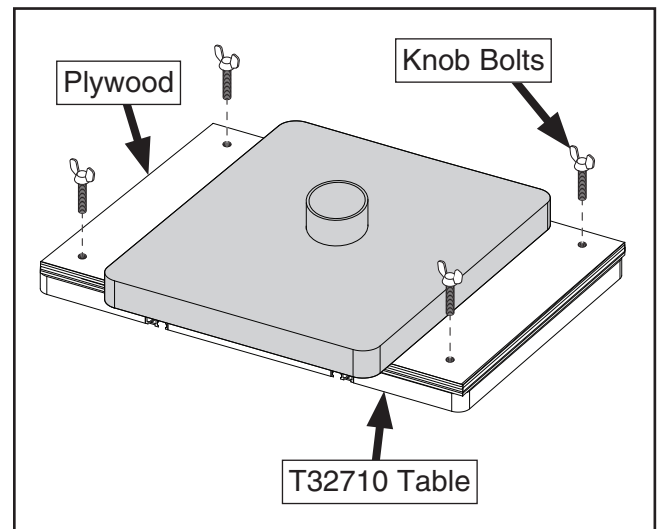

Figure 18. Model T32710 table secured to plywood with knob bolts.
15. Use (4) $\frac{3}{8}$ "-16 x 1" knob bolts to secure Model T32710 table to plywood (see **Figure 18**).